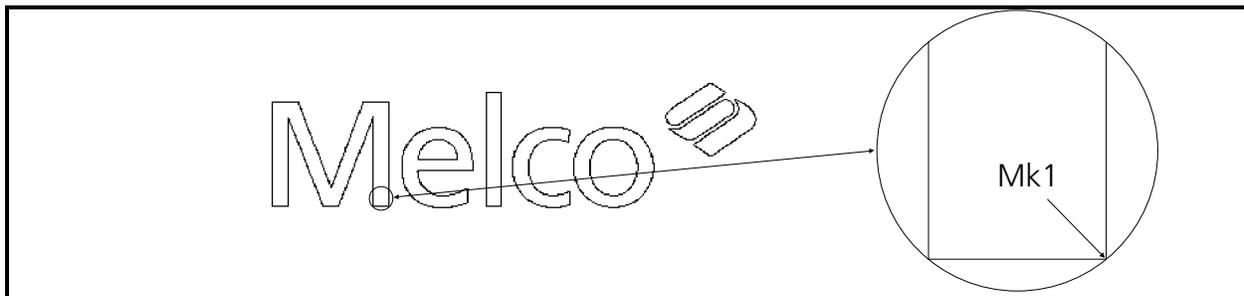

Figure 6-29
3. Click at the location on the displayed image where you want to place a Mk1 to start the design. This identifies the location for the needle entry starting the first stitch. In our example we will enter into the lower area of the right leg of the capital letter **M** (see Figure 6-29).
1. Click on the Normal Stitch tool in the toolbar and note the entry in the stitch list. This will allow a stitch to be generated between the first Mk1 (see Figure 6-29) and the second Mk1 when the second Mk1 is placed.